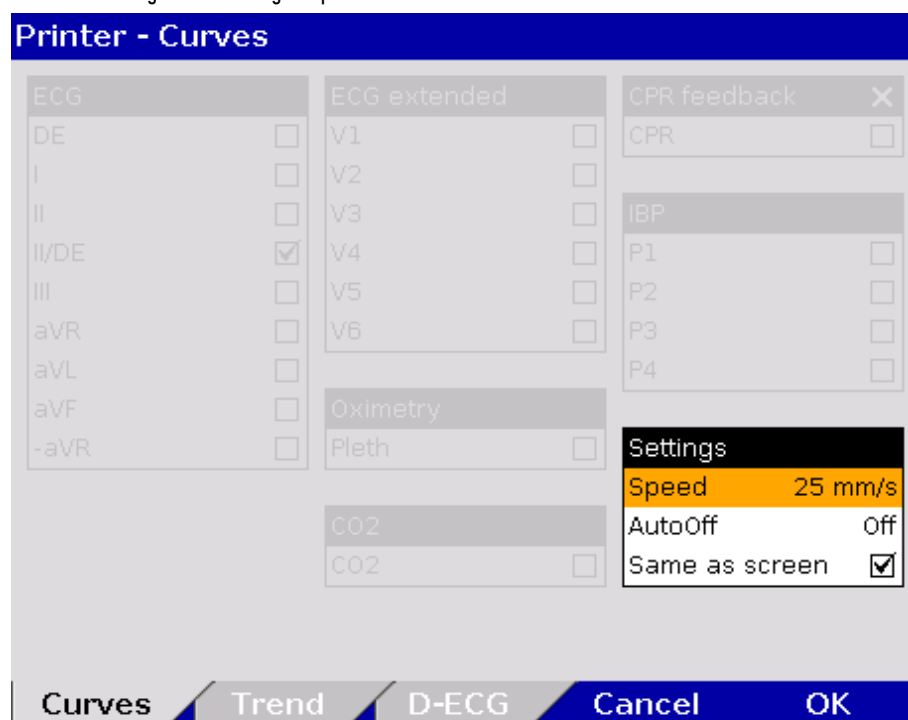

Fig. 7-6 Printer setting "Same as screen"
- If in the group "Settings" the checkbox "Same as screen" is ticked, the curves currently displayed on the screen are printed. The remaining areas of the configuration dialogue are greyed out (see Fig. 7-6).